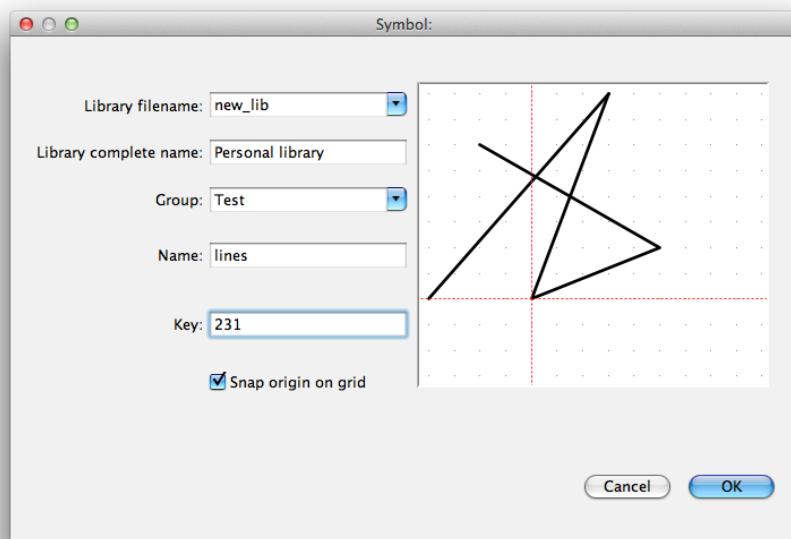

Figure 2.25: The new symbol definition dialog. Here you can set up all the important characteristics of the symbol. Note the origin defined by the two red axis.
- Choose “Symbol-o-matic.” A dialog for the definition of the details of the newly created symbol appears (see figure 2.25).